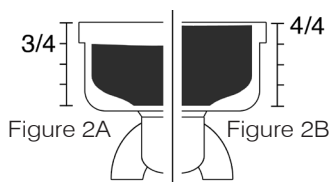

Figure 2A Figure 2B
1. Turn on the machine, turning the ON/OFF switch **1** to position (I). Place the filter holder **7** (with filter) in the group **8**.
3. The filter must be filled to 3/4 its capacity, once the coffee has been tamped down (see figure 2A).